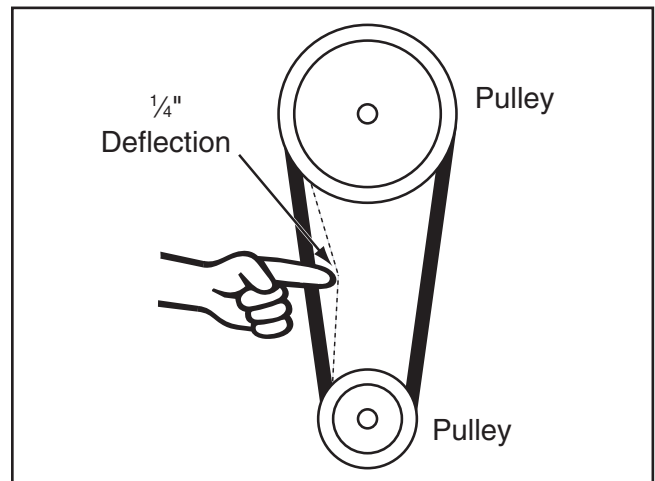

Figure 119. Testing for the correct amount of belt tension.
4. Adjust the motor until there is approximately $\frac{1}{4}$ " deflection when you use moderate pressure between the pulleys, as illustrated in **Figure 119**, then re-tighten the motor mounting bolts.